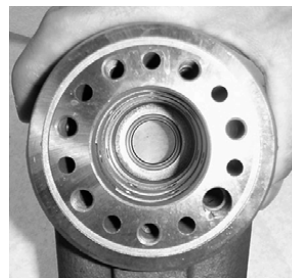

Figure 14
12. Inspect seal installation. Seal and o-ring must both be within shaft seal counterbore of housing (figure 14).